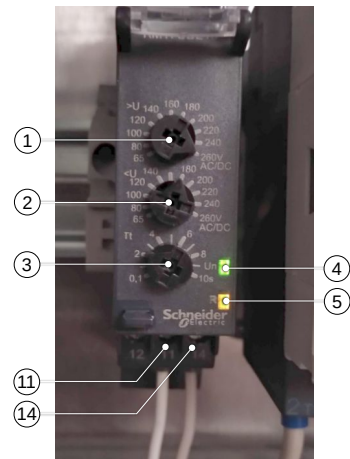

Figure 5: Voltage control relay
Voltage control relay (Fig.5) is intended to protect the machine from improper connection and from voltage deviations in the service grid.
1. Locate the relay, see Fig.5
2. Set the knob (1) at 260 V.
3. Set the knob (2) at 180 V.
4. Set the knob (3) at 2 s.